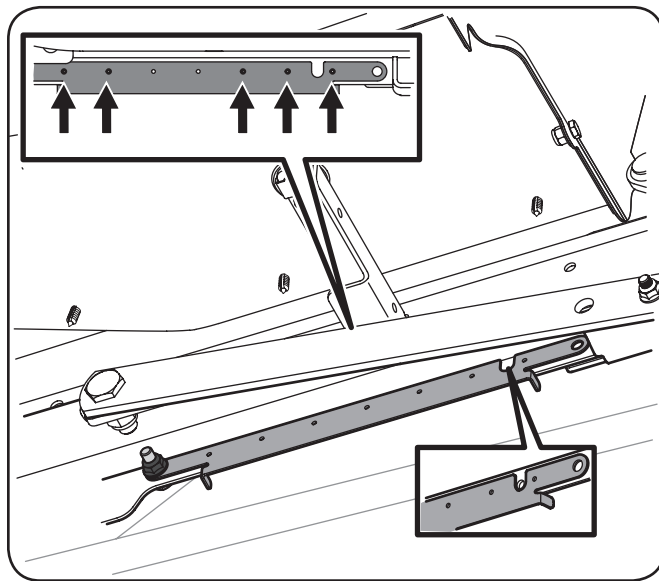

Figure 3-4
3. When the holes are drilled, remove the template and mount on the outside left of the frame as shown in Figure 3-4.
4. Using a $\frac{1}{32}$ " drill bit, drill the five $\frac{1}{8}$ " pilot holes marked in Figure 3-4.